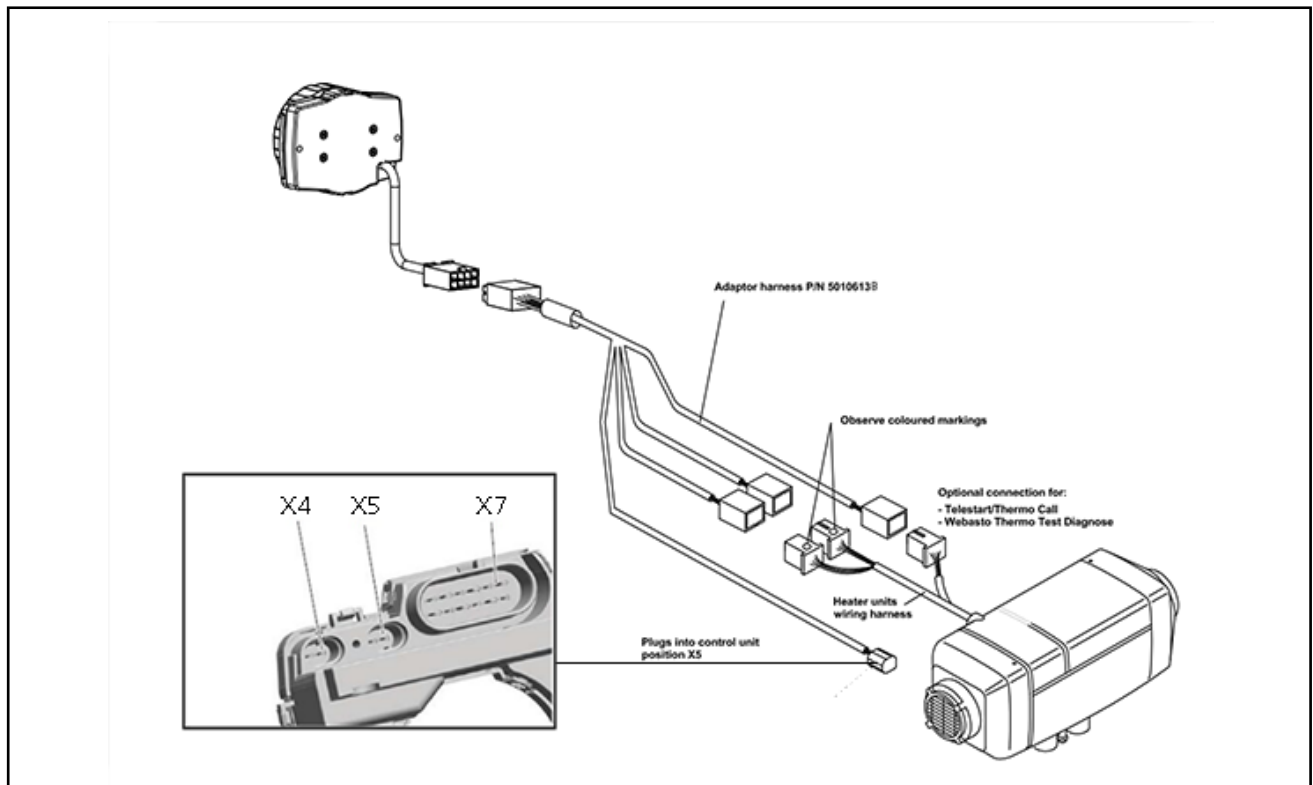

Figure 32. Air Top 40/55 EVO with SmarTemp Control 2.0 - connection diagram
- Follow the electrical pin-out fig. 32 to install the supplied harness connector and harness adapters.